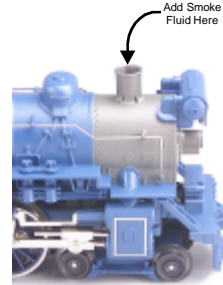

Figure 3. Add Smoke Fluid
1. You should prime the operating smoke unit with smoke fluid before operating. Add 15-20 drops of smoke fluid through the smokestack, then gently blow into the stack to eliminate any air bubbles in the fluid. See Fig. 3.
When preparing to run this engine, add 15-20 drops of smoke fluid through the smokestack (see Fig. 3). We recommend M.T.H. ProtoSmoke, Seuthe, LGB, or LVTS fluids (a small pipette of ProtoSmoke fluid is included). Do not overfill the unit or the fluid may leak out and coat the interior engine components.